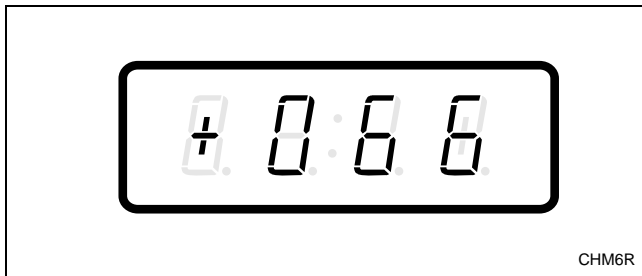

Figure 166
3. Press the DELICATES (+) or the COLD (-) keypad to scroll through the programmable options until “+066” appears in the VFD. Refer to *Figure 166*.